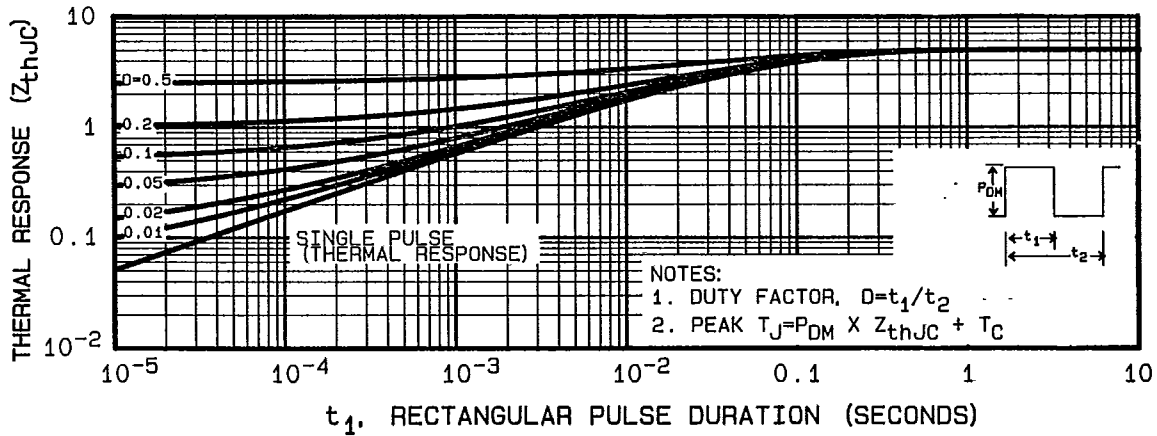

Fig. 5 — Maximum Effective Transient Thermal Impedance, Junction-to-Case Vs. Pulse Duration
- ① Repetitive Rating; Pulse width limited by maximum junction temperature (see figure 5)
- ② @  $V_{DD} = -25\text{V}$ , Starting  $T_J = 25^\circ\text{C}$ ,  $L = 9.7\text{ mH}$ ,  $R_G = 25\Omega$ , Peak  $I_L = -5.3\text{A}$
- ③  $I_{SD} \leq -5.3\text{A}$ ,  $di/dt \leq -80\text{ A}/\mu\text{s}$ ,  $V_{DD} 40\text{V}$ ,  $T_J \leq 150^\circ\text{C}$ , Suggested  $R_G = 24\Omega$
- ④ Pulse width  $\leq 300\ \mu\text{s}$ ; Duty Cycle  $\leq 2\%$
- ⑤  $K/W = \text{ }^\circ\text{C}/W$